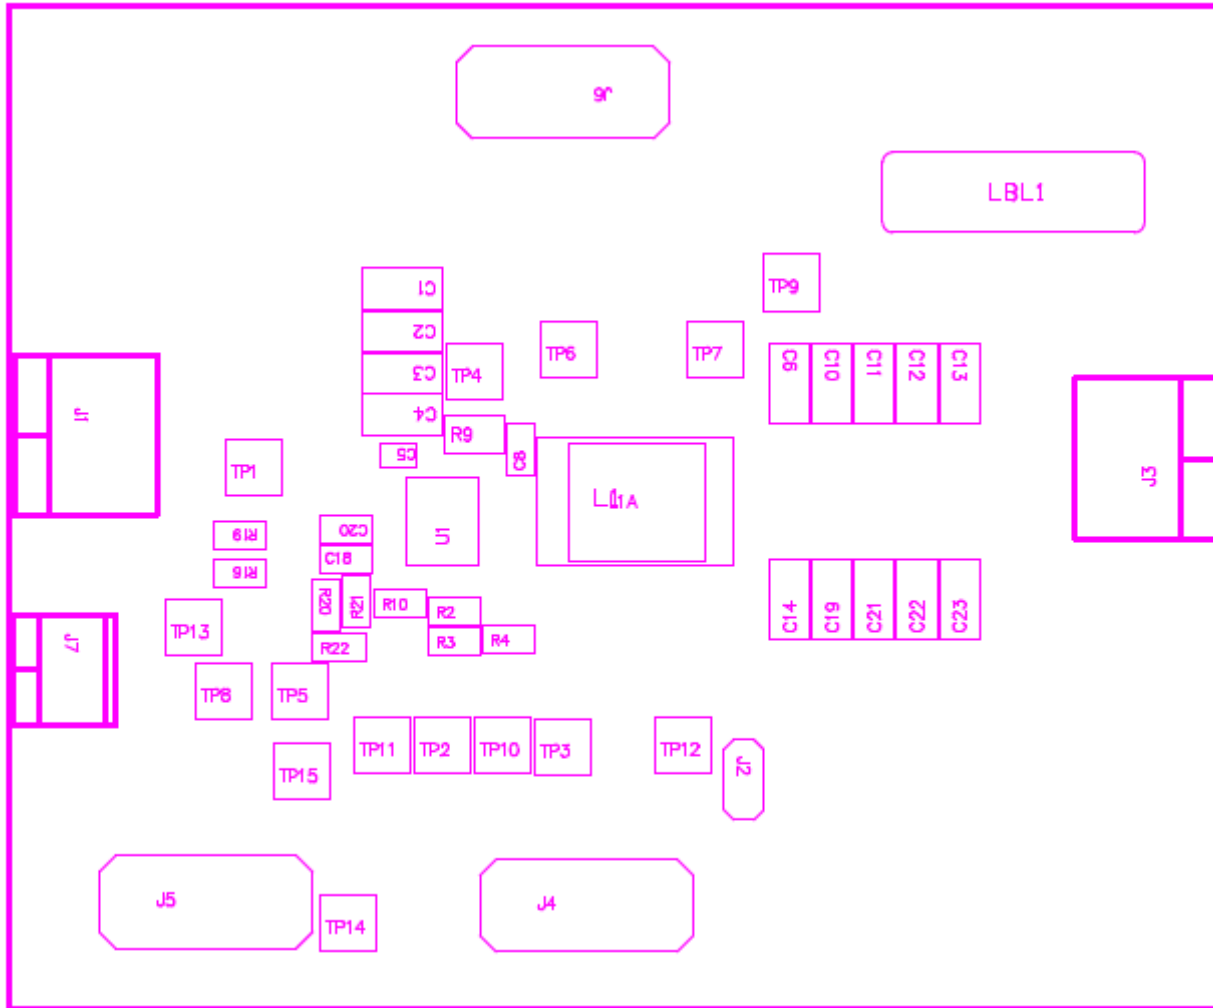

Figure 5-2. TPS53515EVM-587 Top Layer for Test Setup
- Voltage Source** The input voltage source V_{IN} must be a 0 to 14-V variable-DC source capable of supplying 10 ADC. Connect V_{IN} to J1 as shown in Figure 5-2.
1. Prior to connecting the DC input-source, VIN, TI recommends to limit the source current from VIN to 10 A maximum. Ensure that VIN is initially set to 0 V and connected as shown in Figure 5-2.
1. Set up the EVM as described in Section 5 and Figure 5-2.